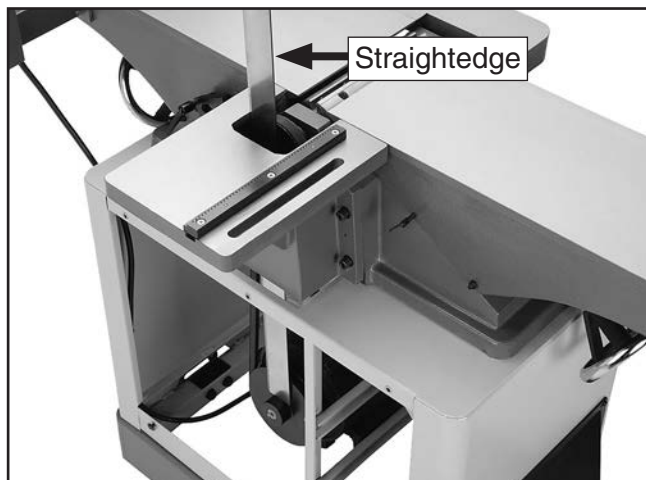
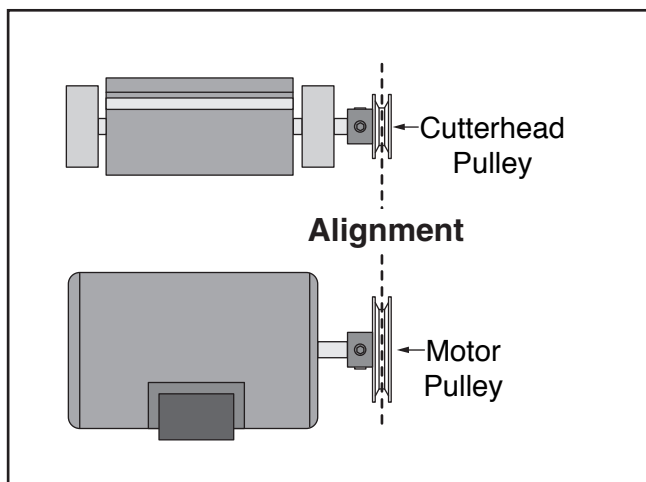

Figure 10. Checking belt alignment.
Figure 11. Pulleys aligned.
11. Place a straightedge against both pulleys (**Figure 10**) and check the alignment of the two pulleys to make sure that they are aligned and that the V-belt is straight up and down (see **Figure 11**).